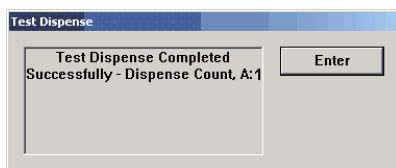

Figure 12. Test dispense prompt.
- e. After completion of the Test Dispense operation, the following prompt is displayed below - “Test Dispense Completed Successfully - Dispense Count ,A: (# of notes)”. (Figure 12)